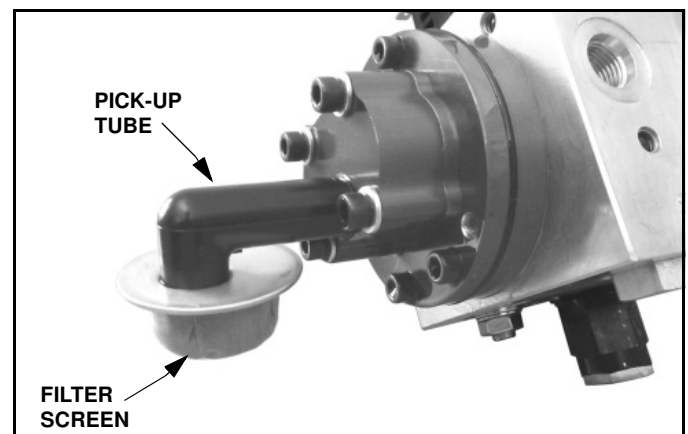

Figure 2-2
8. Pull the filter screen from the oil pick up tube and clean with a suitable solvent. Blow-dry the filter from the inside with low-pressure air. (See Figure 2-2).